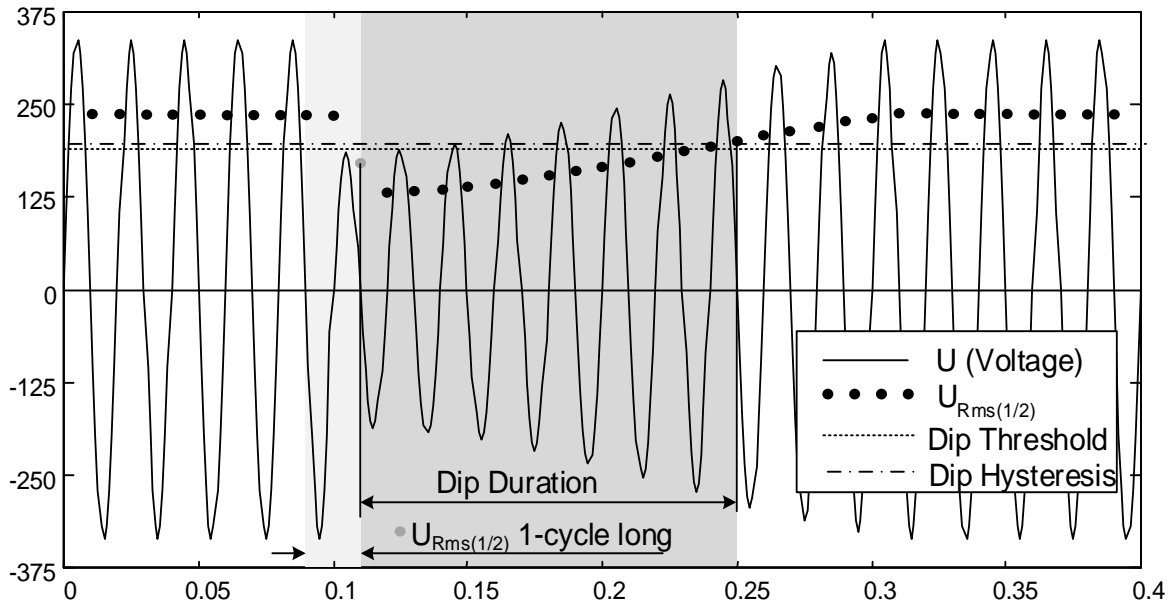
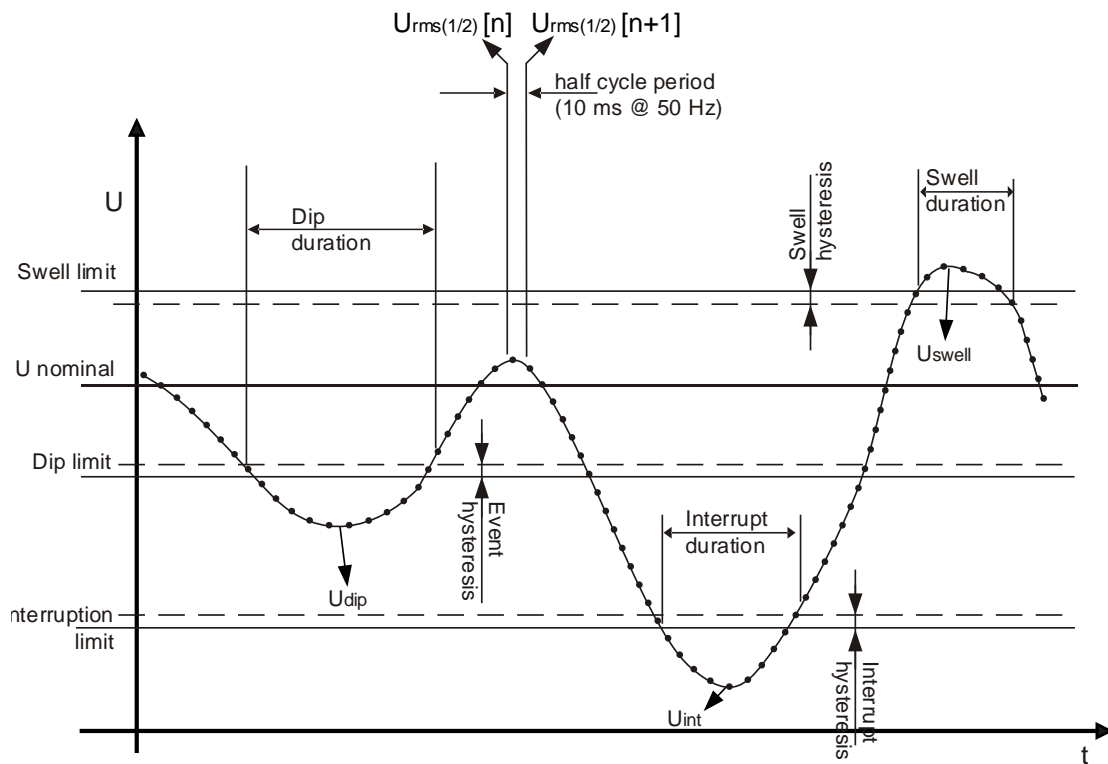

Figure 6.11:  $U_{Rms(1/2)}$  1-cycle measurement
Figure 6.12 Voltage events definition
- On single-phase system (Connection type: 1W), a voltage dip begins when the  $U_{Rms(1/2)}$  voltage falls below the dip threshold, and ends when the  $U_{Rms(1/2)}$  voltage is equal to or above the dip threshold plus the hysteresis voltage (see Figure 6.12 and Figure 6.11),.
- On single-phase system (Connection type: 1W) , a voltage swell begins when the  $U_{Rms(1/2)}$  voltage rises above the swell threshold, and ends when the  $U_{Rms(1/2)}$  voltage is equal to or below the swell threshold plus the hysteresis voltage (see Figure 6.12 and Figure 6.11),
- On single-phase system (1W), a voltage interruption begins when the  $U_{Rms(1/2)}$  voltage falls below the voltage interruption threshold and ends when the  $U_{Rms(1/2)}$  value is equal to, or greater than, the voltage interruption threshold plus the hysteresis (see Figure 6.12 and Figure 6.11),